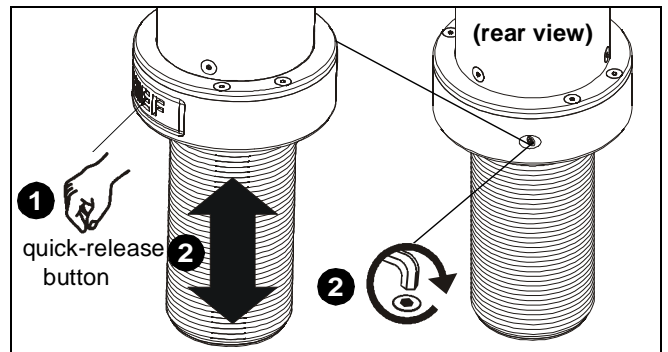

Figure 2
1. Press quick-release button to lower interior pipe to desired mounting height. (See Figure 2)
2. Tighten locking set screw with 5/64" hex key (C) to lock mount in its current position. (See Figure 2)